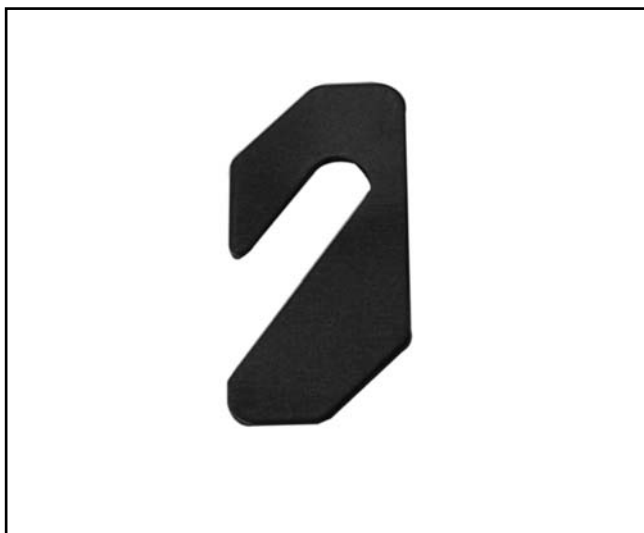

Figure 25B. Upper wheel spacer.
2. Remove the spacers (**See Figure 25B**) behind the upper wheel in the desired direction. Move the upper wheel left or right as needed, and replace the spacers on the opposite side from where they were removed.